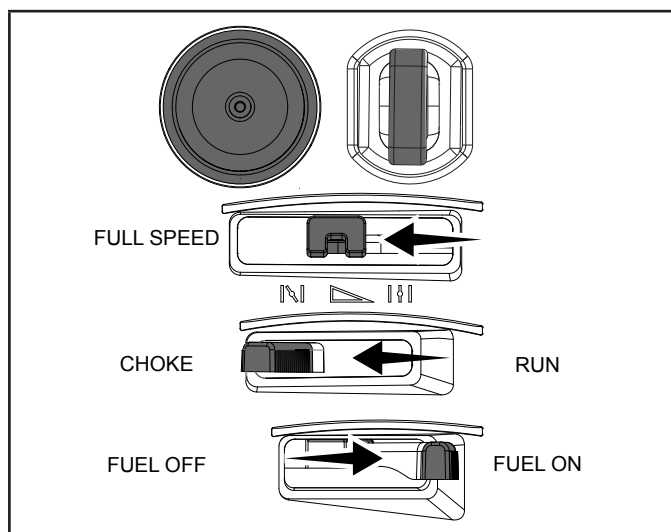

Figure 11
3. To start a cold engine: (Fig. 11).